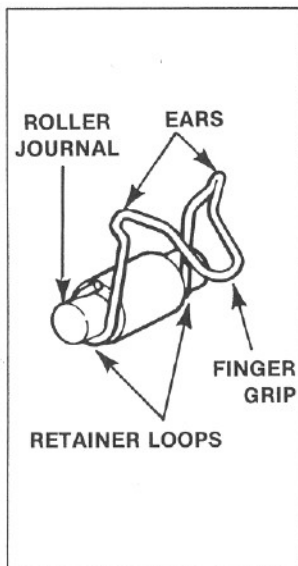

FIGURE 1
- A. Seat the roller journals in the retainer loops. (Figure 1)